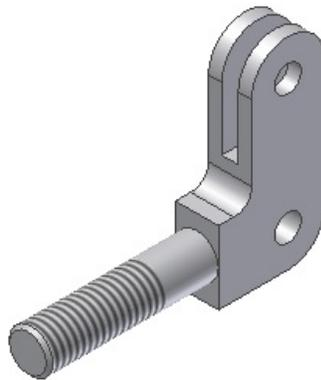

Figure 8-152 Final model for Tutorial 2
4. Select **M14x2** from the **Designation** drop-down list and **6g** from the **Class** drop-down list. Make sure that the **Right hand** radio button is selected. Choose **OK** from the dialog box to create the threads. The model after creating threads is shown in Figure 8-152.